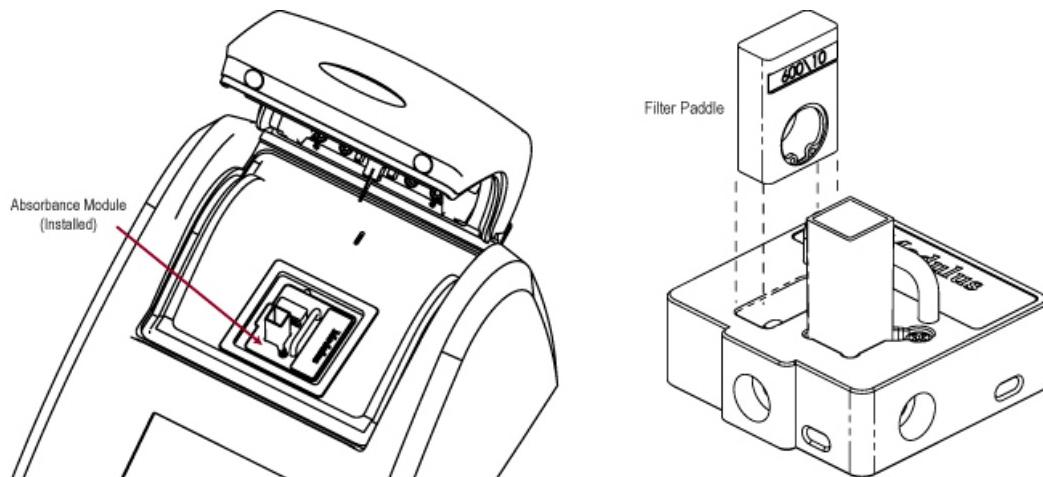

Figure 7.
5. Install the filter paddle that corresponds to the wavelength of absorbance for the assay. (See Figure 7.)